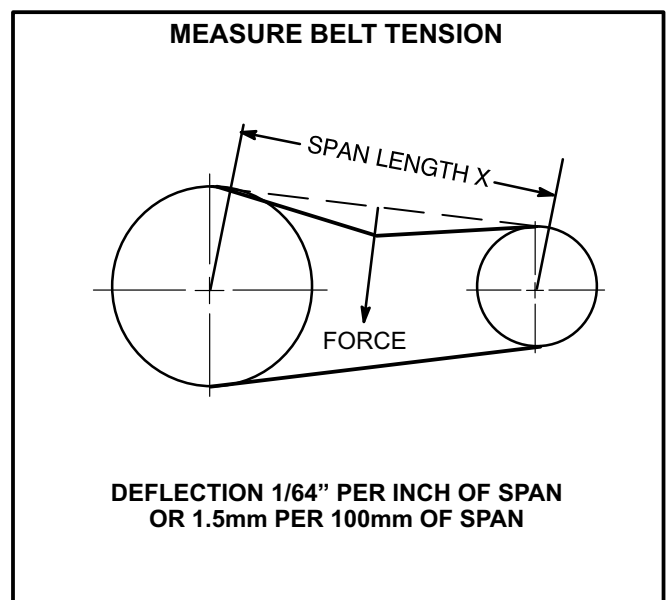

FIGURE 10
- 1- . Measure span length X. See figure 10.
- 2- . Apply perpendicular force to center of span (X) with enough pressure to deflect belt $1/64$ " for every inch of span length or 1.5mm per 100mm of span length.